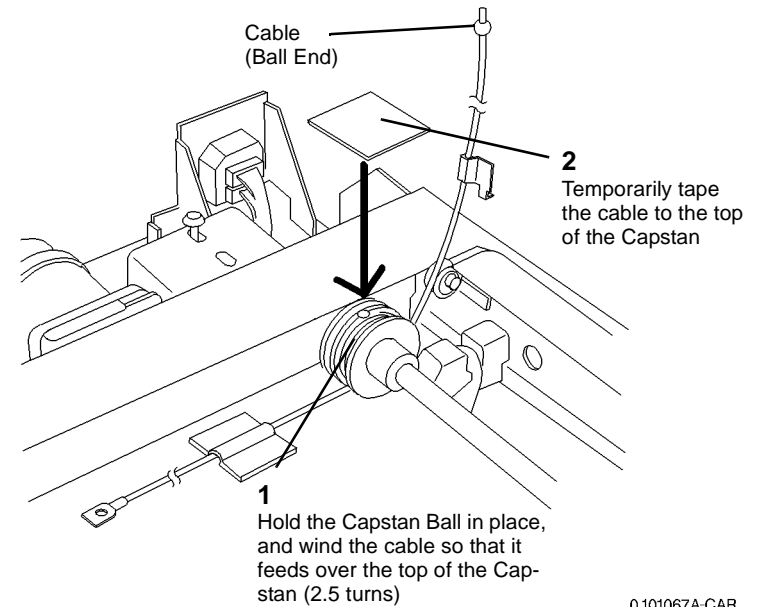

Figure 6 Preparing the Ball End
c. Prepare the ball end for installation (Figure 6).